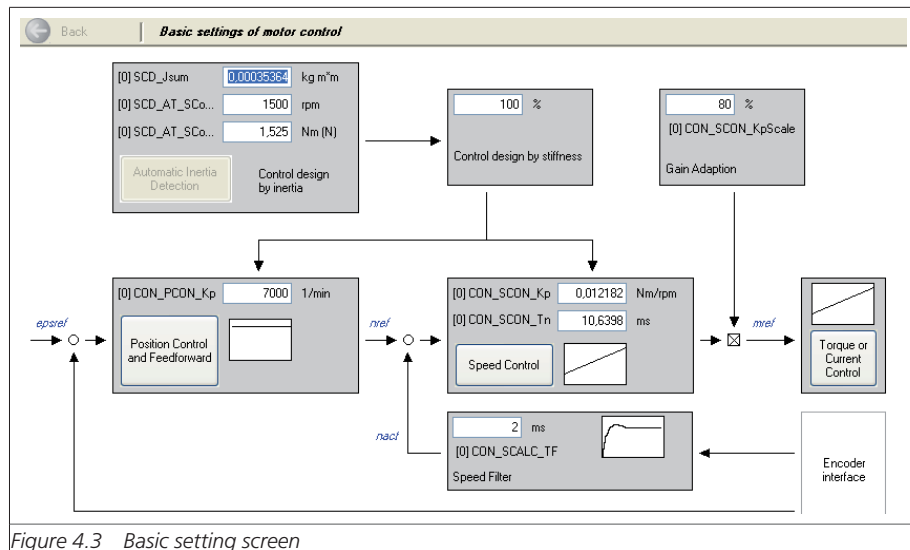

Figure 4.3 Basic setting screen
- Click the "Basic setting" button (the screen in figure 4.3 opens up)